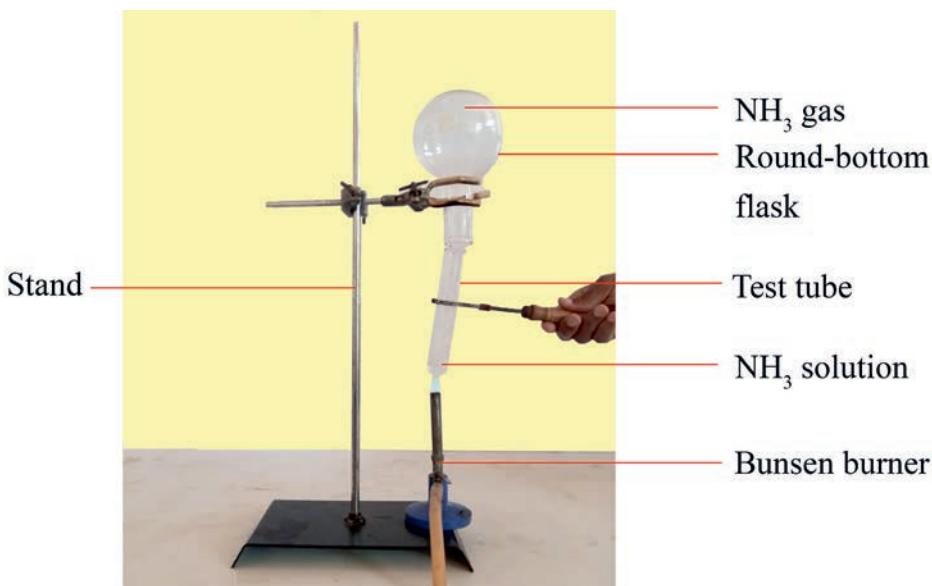

Figure 3.6a: Generation of ammonia
- a. Set up the flasks as shown in **Figures 3.6a and 3.6b**